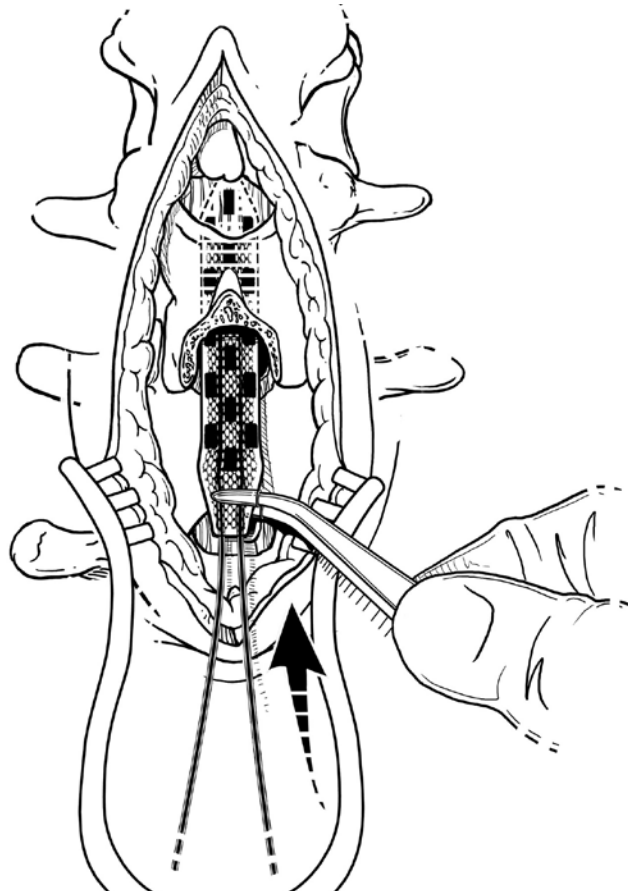

FIGURE 31
- ③ Remove the passing elevator.
- ④ If desired, carefully introduce the lead blank into the epidural space to ensure proper size and location of the lead site.
- ⑤ If using the lead blank, remove and discard the lead blank.
- 6 Making sure the stimulating electrodes face the dura mater and using a rubber-tipped forceps to handle the lead paddle, carefully position the lead paddle in the epidural space (FIGURE 31).